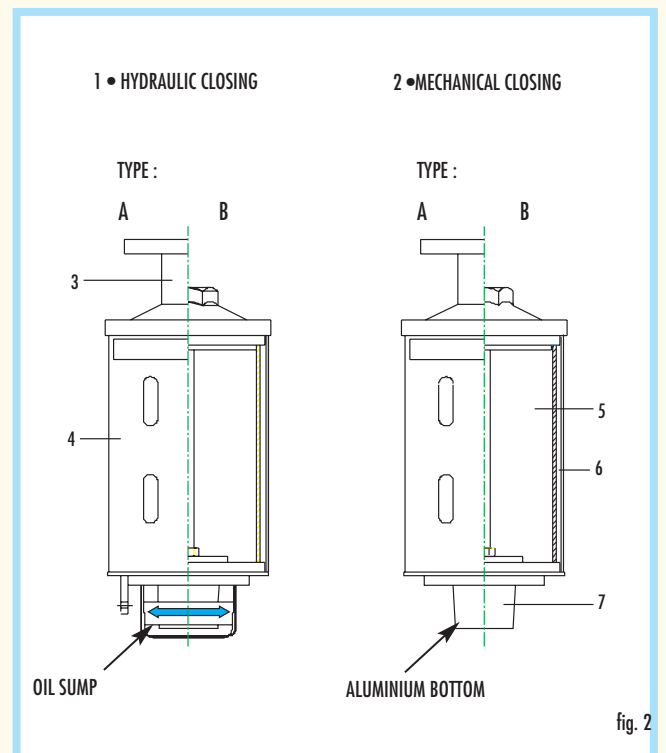

fig. 2
The upper (3) and lower (7) (see fig. 2) parts consist of compact, corrosion-proof aluminium alloy castings. The transparent tube (6) containing the salts (5) is made of polycarbonate that resists against transformer oils, UV light, slightly corrosive atmospheres and tropical and marine climates. On request this tube can be furnished in tempered glass that is particularly suited for desert-site installations (where sandstorms or strongly acid atmospheres may take place). This tube is protected by a stainless steel cylinder (4) against accidental blows, with opening to allow visual inspection of the salts.